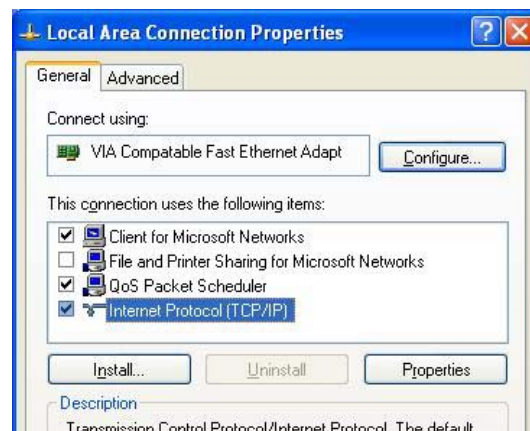

Figure 21
6. Click on the **Properties** button. See figure 21